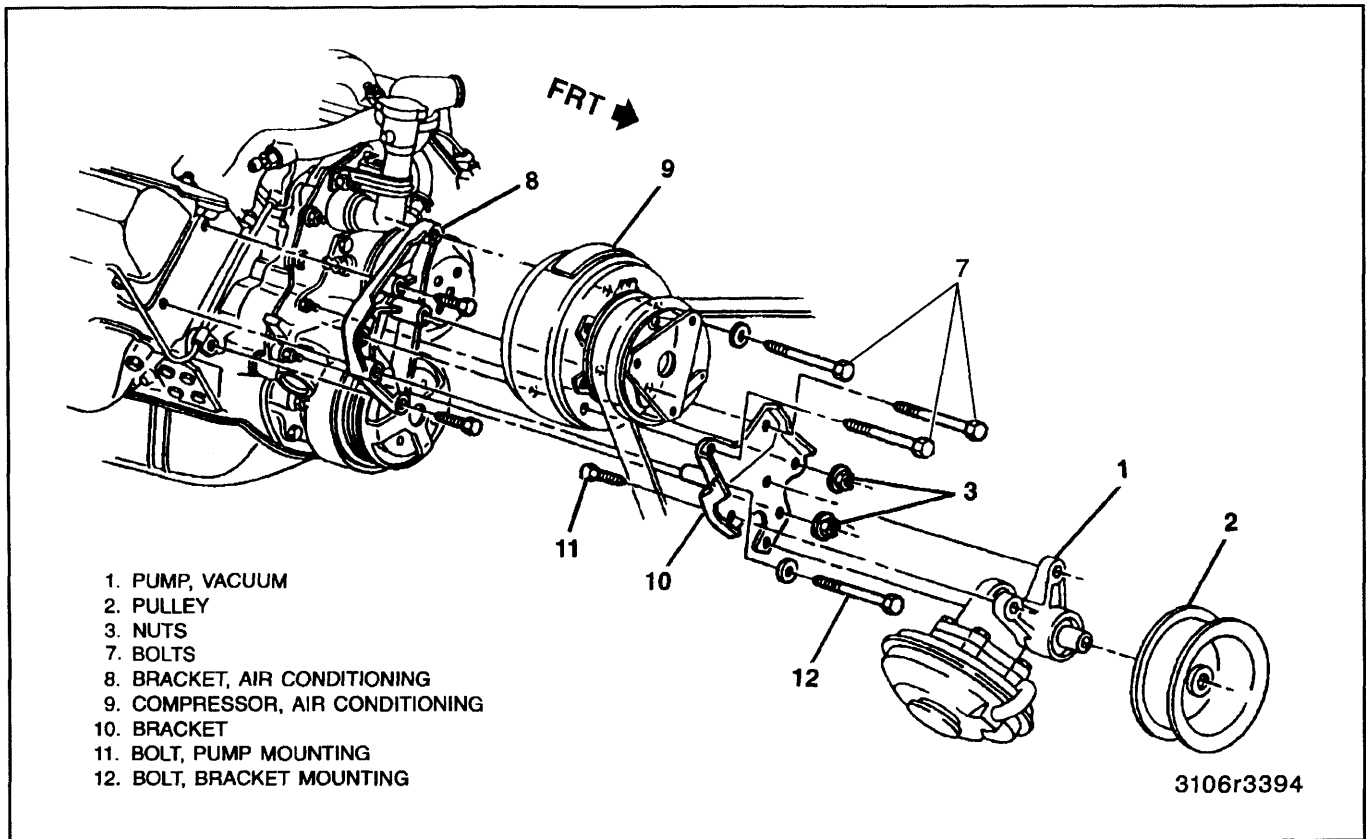
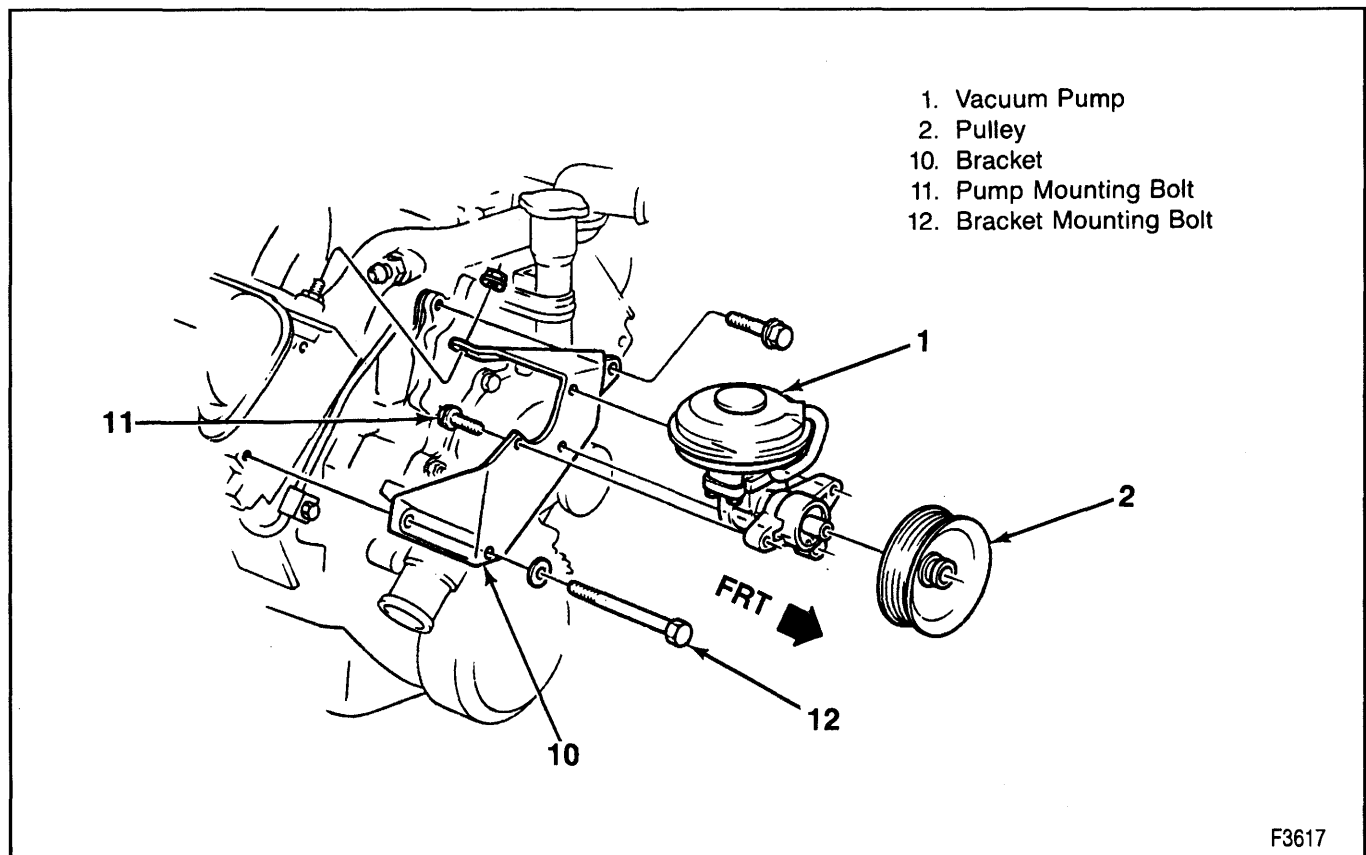

Figure 3—Vacuum Pump with Air Conditioning
Figure 4—Vacuum Pump without Air Conditioning
Remove or Disconnect (Figures 3, 4, and 5)
- 3. Three through bolts (7) holding the A/C compressor (9) to the bracket (10) (figure 3).
- 6. One through bolt (12) and two nuts (3) holding the bracket (10) to the stud on the engine (figure 3).
- 7. Vacuum pump (1) and bracket (10) assembly from the vehicle.
- 8. Bolts holding the mounting bracket (10) to the engine (figure 4).
1. Vacuum pump (1) to the bracket (10) with bolts (11) (figure 4).